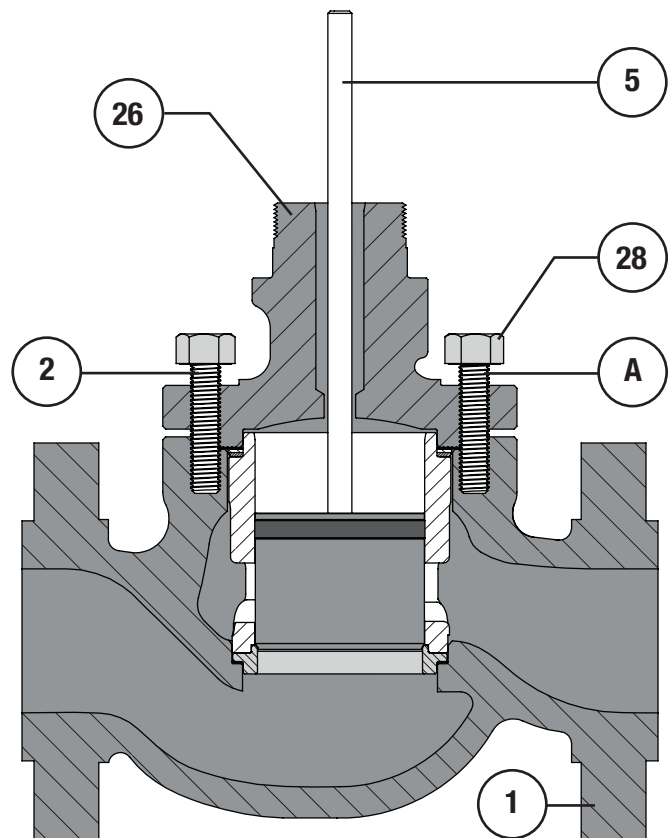

Figure 25 Bonnet Installation Step 3
- 6 Torque each bonnet nut (Key 28) to ¼ (25%) of the torque value listed in Tables 5, torque the nuts in the crisscross pattern shown in Figure 25. Hot torquing of valve nuts is not recommended.